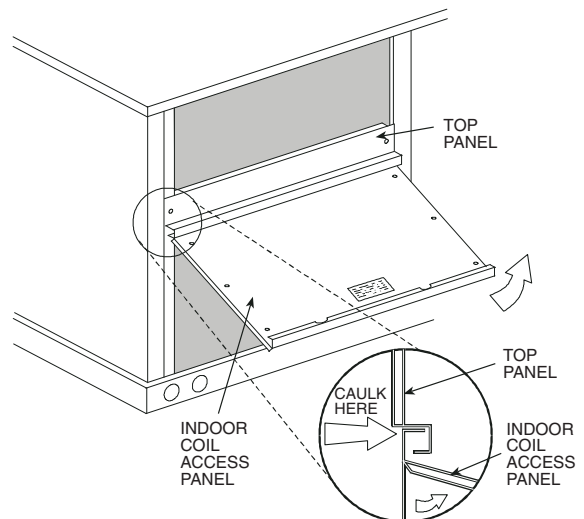

Fig. 23 — Indoor Coil Access Panel Relocation (Sizes 07-14)
1. The indoor coil access panel will be used as the top of the hood. Remove the screws along the sides and bottom of the indoor coil access panel. See Fig. 23.